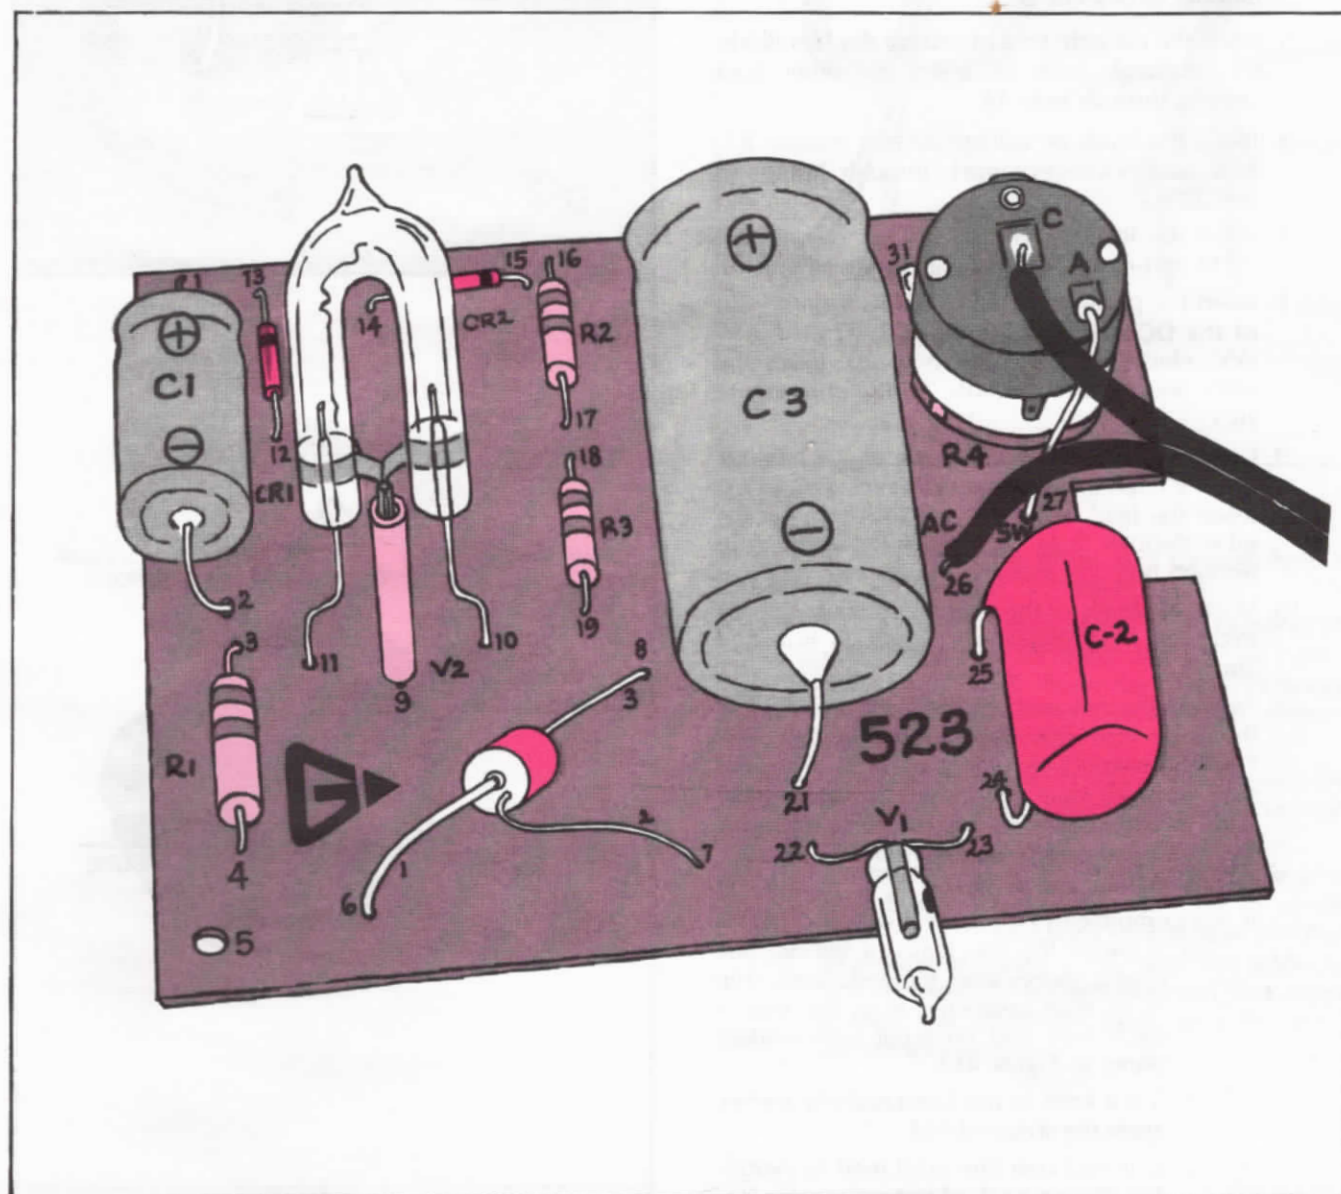

FIG. 36
1. Insert the positive (+) lead (lead nearest to "+") of the voltage doubler capacitor C1, 2.2 mfd, 350 WV, electrolytic, through hole 1 of PCB. Insert the negative (-) lead through hole 2. (Refer to Figure 36.) Bend the leads to hold C1 in place.
8. Insert the positive (+) lead (lead nearest to "+") of the DC storage capacitor C3, 22 mfd, 450 WV, electrolytic, through hole 20. Insert the other lead (-) through hole 21. (Refer to Figure 36.)
- 14. Check all components and wires to be sure they have been properly placed, as shown in Figure 36.